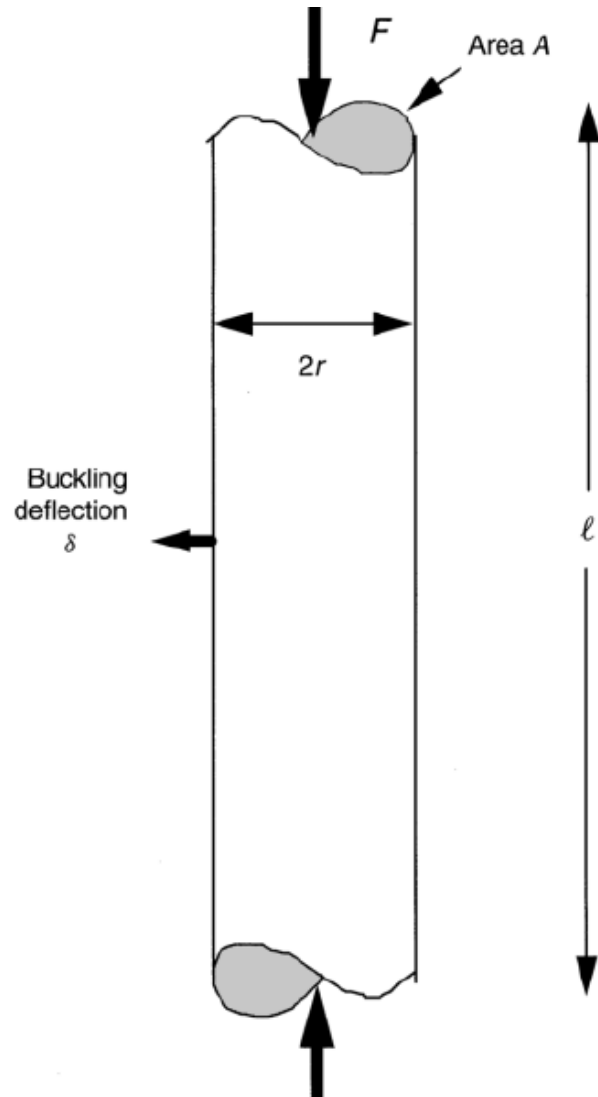

Fig.5.7 A column carrying a compressive load  $F$ . The constraint that it must not buckle determines the section area  $A$ .
- Columns support compressive loads: the legs of a table; the pillars of the Parthenon. We seek materials for the cheapest cylindrical column of specified height,  $\ell$ , which will safely support a load  $F$  (Figure 5.7). Table 5.5 lists the requirements.